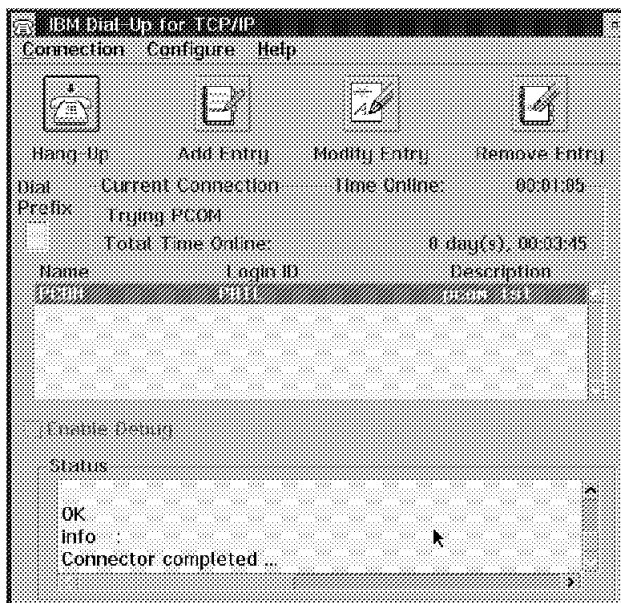

Figure 354. TCP/IP Dial-UP - Ready to Receive Incoming Call
- First start the PPP link on the LAN-attached side. To do so click on the **DIAL** button in the TCP/IP Dial-Up window (see Figure 354). The LAN-attached workstation starts the link as defined in 9.3.3, "Configuration of PPP on the LAN-Attached OS/2 Workstation" on page 317. It should then be ready to receive an incoming call, as shown in Figure 354.